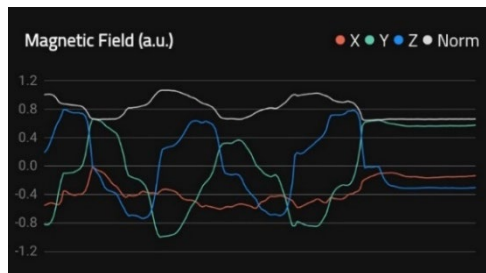

Figure 6: Mag Norm fluctuates when moving
- If the Mag Norm will vary depending on the location and orientation of the device (see Figure 6), there are magnetic distortions in the environment.